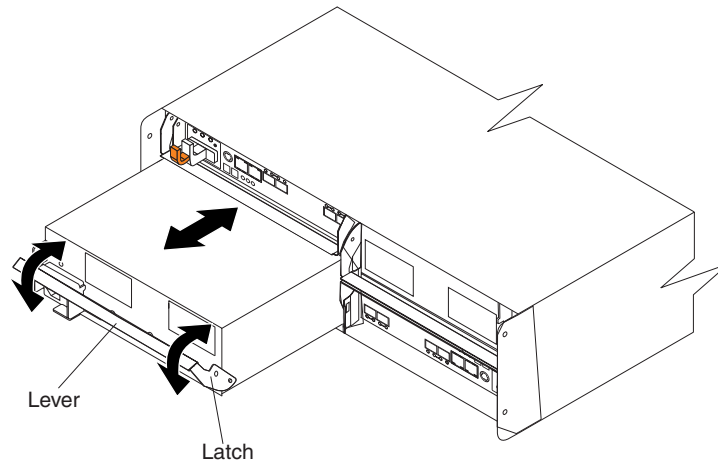

Figure 81. Replacing a power supply and fan unit
Use the following procedure to replace an ac power supply and fan unit. Figure 81 on page 139 illustrates removing and inserting a unit.
11. Slowly pull the lever away from the chassis to remove the power supply and fan unit, as shown in Figure 81 on page 139.